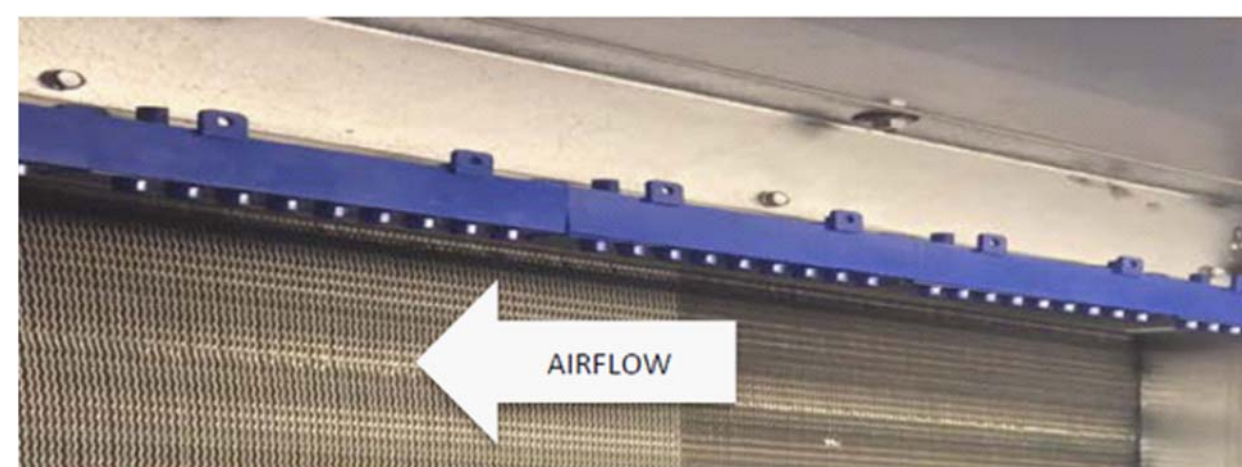

FIGURE 1: BI DEVICE MOUNTING LOCATION
- PROVIDE "GLOBAL PLASMA SOLUTIONS" MODEL "GPS-IMOD" BIPOLAR IONIZATION GENERATOR FOR RTU-1 THRU 5 AND RTU-7 THRU 9. IMOD SHALL BE MOUNTED UPSTREAM OF THE COOLING COIL AT THE TOP OF THE FINNED SURFACE AREA OF THE COIL. REFER TO FIGURE 1 FOR EXAMPLE. PROVIDE SUFFICIENT QUANTITY OF 6" IMOD SECTIONS TO MATCH THE WIDTH OF THE COOLING COIL. VERIFY THAT ALL MODULAR SECTIONS OF THE IMOD ARE ATTACHED SNUGLY TOGETHER IN ACCORDANCE WITH FIGURE 2.